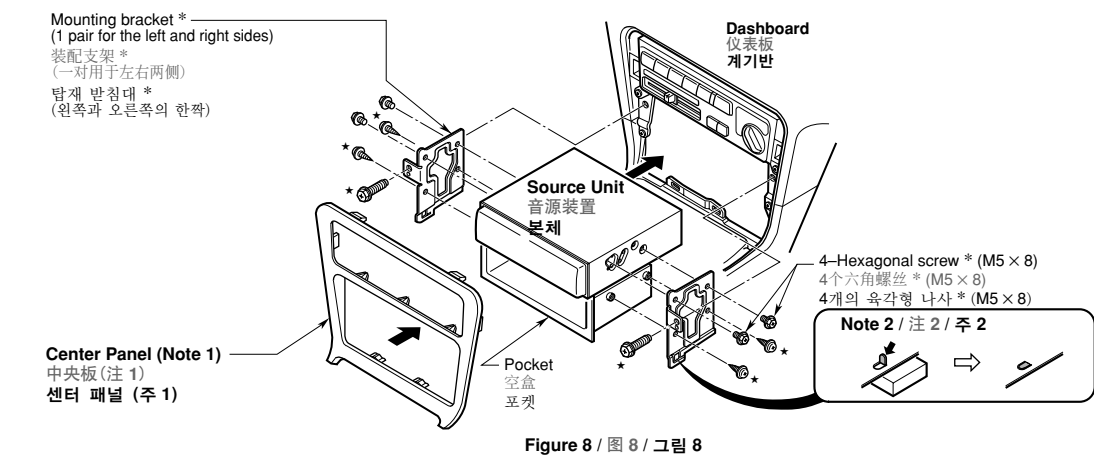

Figure 8 / 图 8 / 그림 8
- 1. Secure the mounting brackets to the chassis as shown in Figure 8. When the source unit is installed without the universal mounting bracket, holes exist; modification, such as drilling new holes, of the mounting brackets may be required for other models.
本机用于固定安装在仪表板上。如果汽车装备有出厂时安装好的收音机, 请用带星号(\*)的零件和螺丝安装音源装置。(图8)
- 1. 如图8所示, 将装配支架固定在底盘上。在不使用通用装配支架的情况下安装主机时, 有现成的安装用孔。其它车型可能需要改造装配支架, 如钻出新孔等。